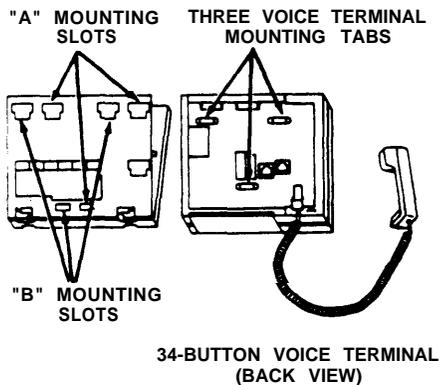

Figure 1
2. Position the stand on the back (or bottom) of the voice terminal so that the voice terminal mounting tabs fit into the "A" mounting slots on the stand (see Figure 1).